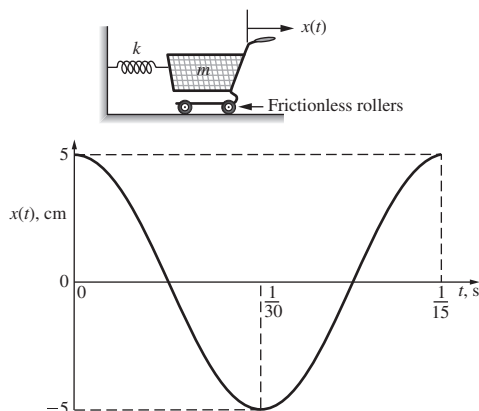

Figure P6.8 Sinusoidal motion of a spring-mass system in the x -direction for problem P6-8.
- 6-8.** A spring-mass system moving in the x -direction has a sinusoidal motion as shown in Fig. P6.8. Determine the amplitude, period, frequency, and phase angle of the motion. Also, write the expression for $x(t)$.